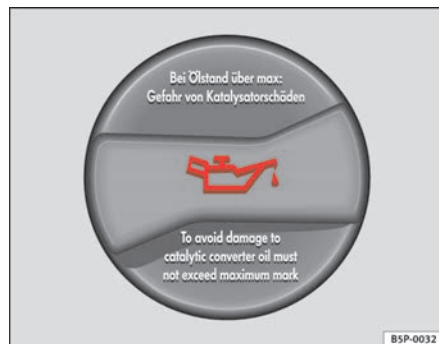

Fig. 127 In the engine compartment: Engine oil filler cap
- Unscrew cap from oil filler opening ⇒ **fig. 127**.